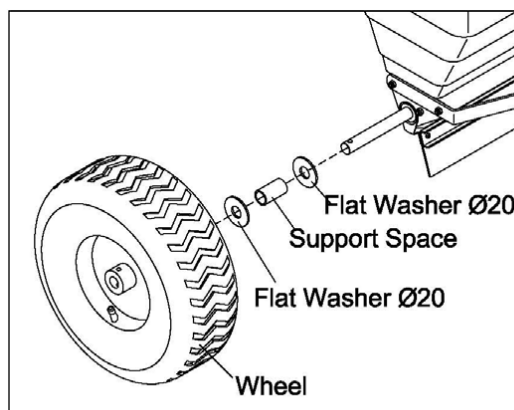
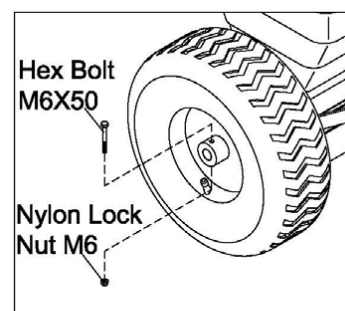

Figure 13
Figure 14
- On the wheel axle, insert the Flat Washer $\varnothing 20$, Support Space, Flat Washer $\varnothing 20$, and Wheel by Sequence. (Note the valve on wheel should be in outside). See Figure 13. Make sure the hole on Wheel Hub and Wheel Axle are in alignment. Secure the wheel by using one Hex Bolt M6x50 and Nylon Lock Nut M6. See Figure 14.